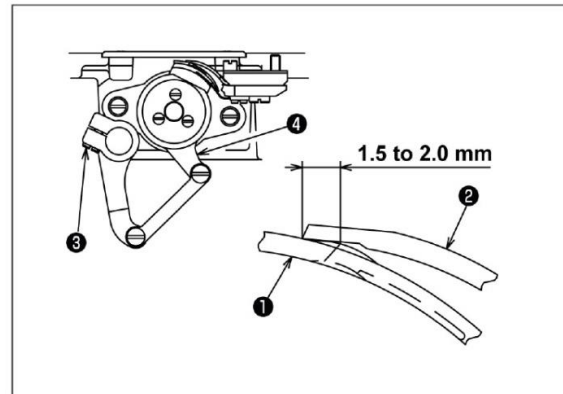

Fig.29
Turn the handwheel by hand and move the knife (1) upward. Loosen driving arm clamping screw (3). Manually adjust the knife mounting base (4). Securely tighten driving arm clamping screw (3). See fig.29.